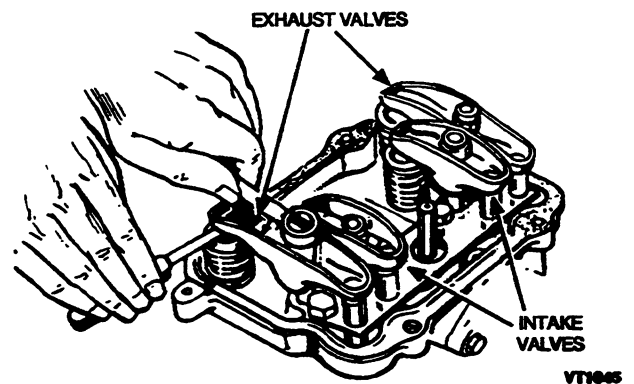

FIGURE 6-4. CHECK VALVE CLEARANCE
4. Using a feeler gauge, check the clearance between the rocker arm and the valve (see Figure 6-4). Increase or decrease the clearance until the proper gap is established. Valve clearances are listed in the Specifications section.